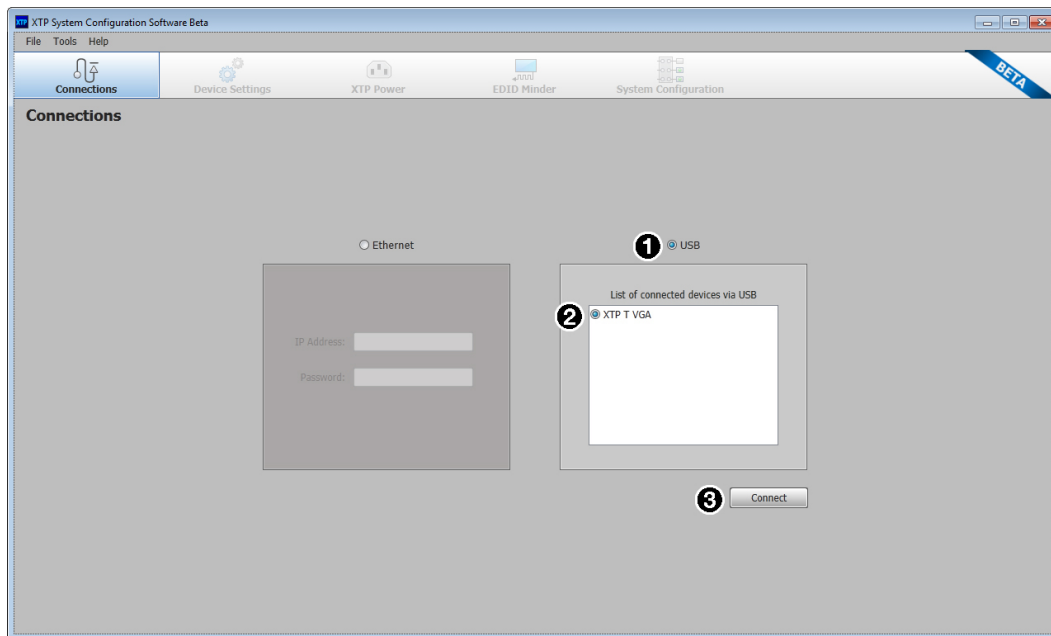

Figure 12. Connections Screen
1. From the Connections screen in the software, select the **USB** radio button (see figure 12, **1**).